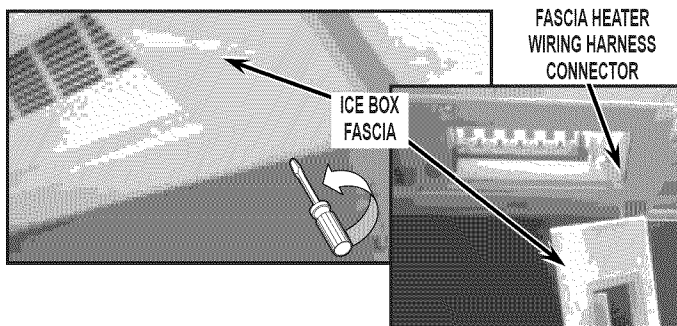

FIGURE 2
4. Remove ice box fascia using a flat blade screwdriver and discard. If your ice box assembly has a revised ice box fascia with heater, you will need to disconnect the fascia heater wiring harness. See *Figure 2*.